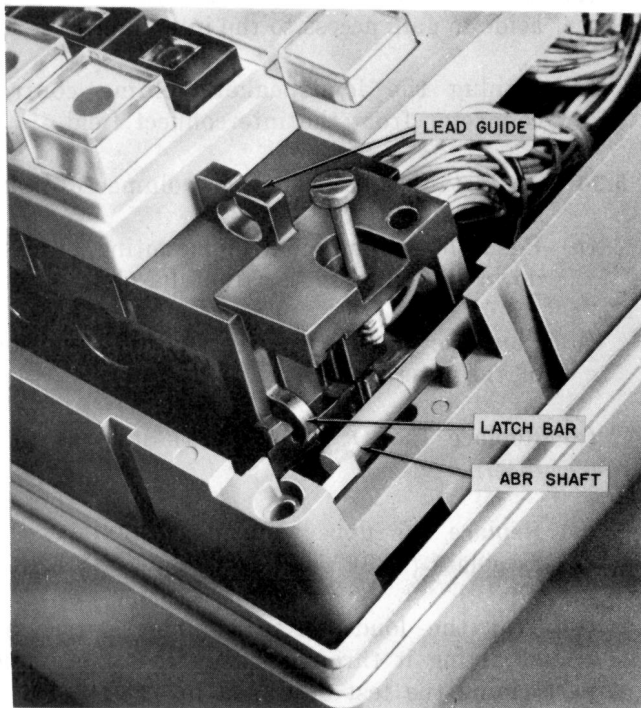

Fig. 52—Line Key Installation
- (a) Push the latch bar all the way into the upper end of the key so that it will engage the ABR shaft properly (Fig. 52).
- (b) Dress the 1A module leads through the guide on the line key (Fig. 52) and plug the connector into the SPEAKERPHONE position of the interconnect field.
- (c) Replace the DSS key (5.24).
(b) Dress the HFAI module leads through the guide on the line key (Fig. 52) and plug the connector into the HFAI/PWR position on the interconnect field.